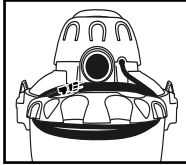

FIGURE 26
50. Before storing your vacuum cleaner the tank should be emptied and cleaned. The power cord can be wrapped around the cord wraps provided on the tank cover on rear of unit. **FIGURE 26.**